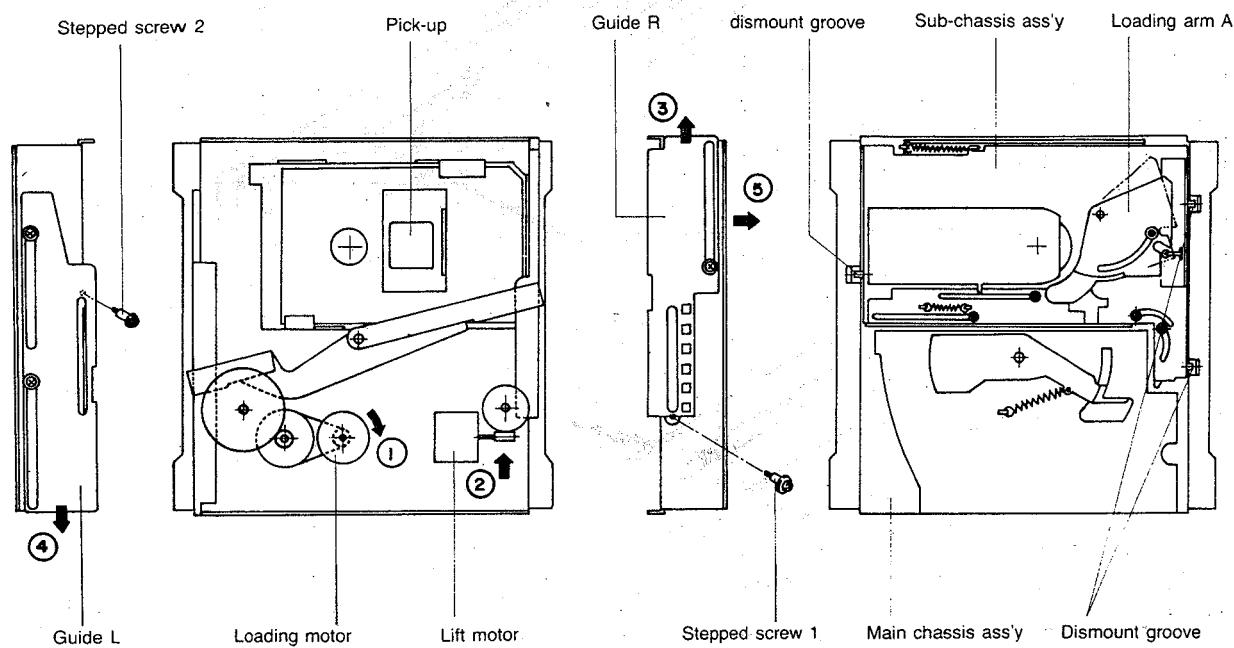

Fig. 1 Removing the sub-chassis
1) Make sure that the loading arm A is at the position of the continuous line shown in Fig. 1 (initial state). If the arm is at a position other than the initial stage (the position of the alternate long and two short dashes line for example.) turn the loading motor in arrow ① direction until loading arm A comes to the position of the initial state.
2) Remove the stepped screws 1 and 2. Then keep turning the lift motor in arrow ② direction to the point where the dismount grooves of guide R and L come to the dismount groove of the main chassis. (Guide R moves in arrow ③ direction and guide L in arrow ④ direction.)
3) Hold up the sub-chassis ass'y in arrow ⑤ direction. Then it can be taken off the main chassis ass'y.